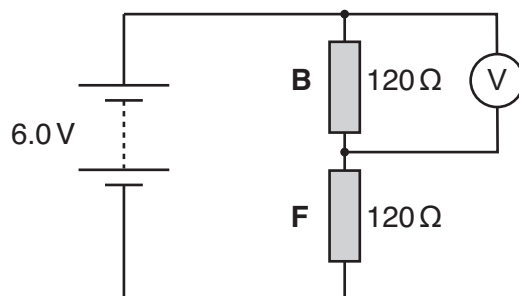

Fig. 11.2
- (a) The strain gauge resistors are made of thin metal films of unstrained resistance $120\ \Omega$. The resistors are connected in series across a 6.0V supply of negligible internal resistance as shown in Fig. 11.2. The output p.d. of the circuit is measured across the stretched resistor **B**.
- (ii) A multimeter is used to measure the output p.d. of the circuit in Fig. 11.2. The meter can record the p.d. to the nearest 1 mV.